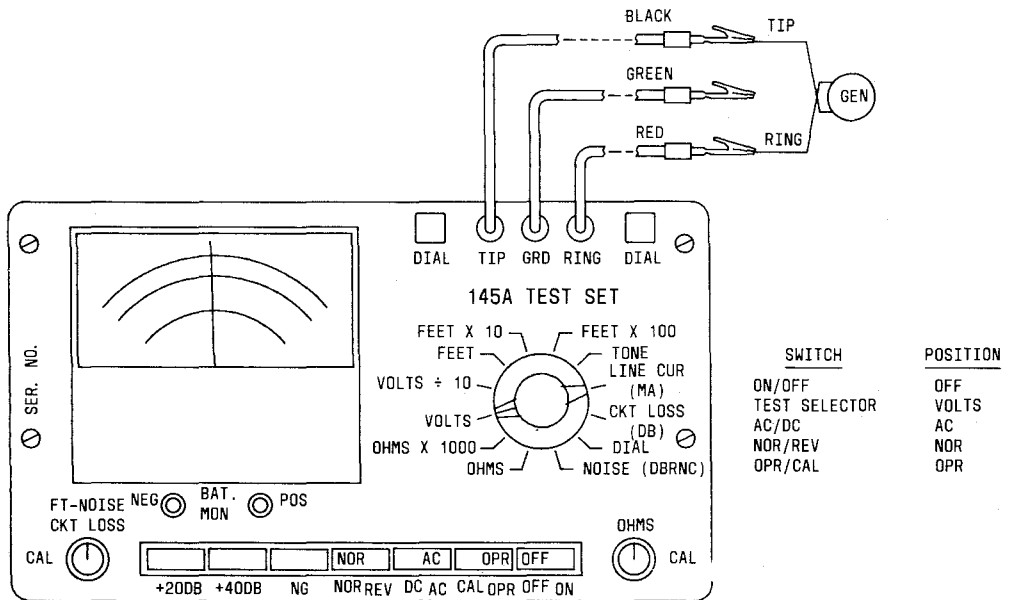

Fig. 10—AC Voltage Testing
4.06 AC Voltage Testing (Fig. 10): This test *should not* be made if it is suspected that the ac voltage of the circuit exceeds 200 Vac. The following steps must be used when making this test: